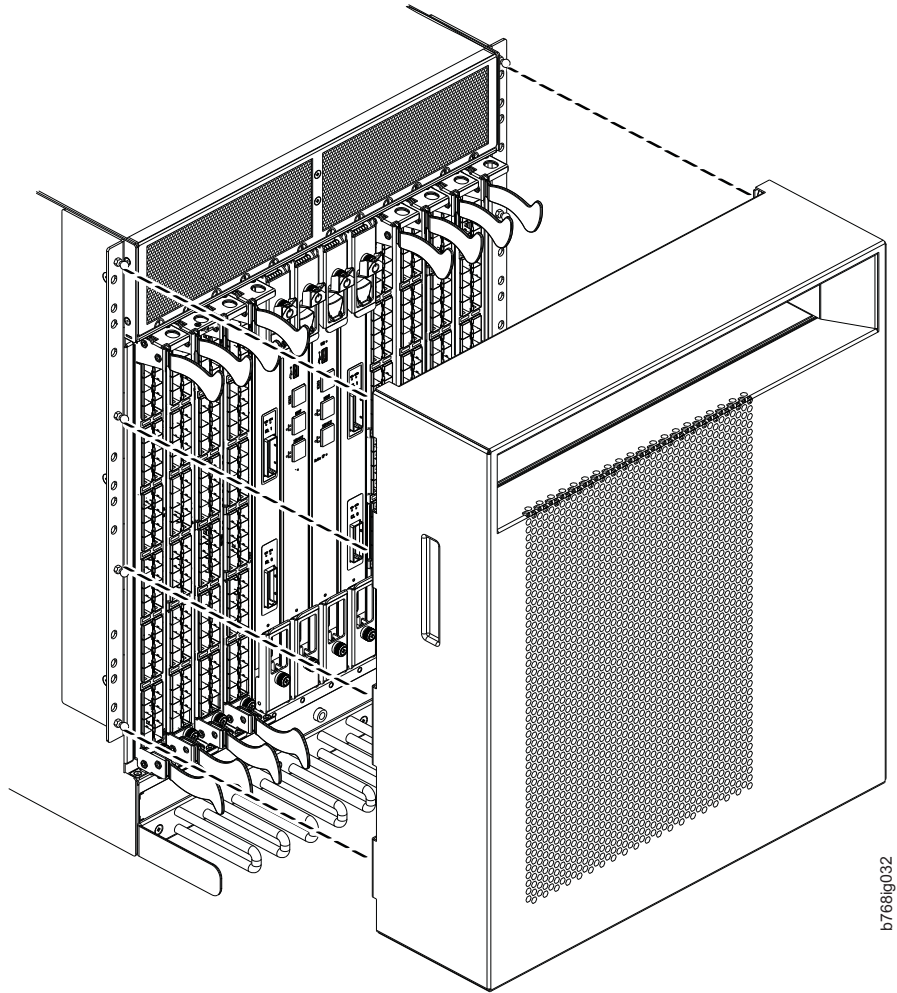
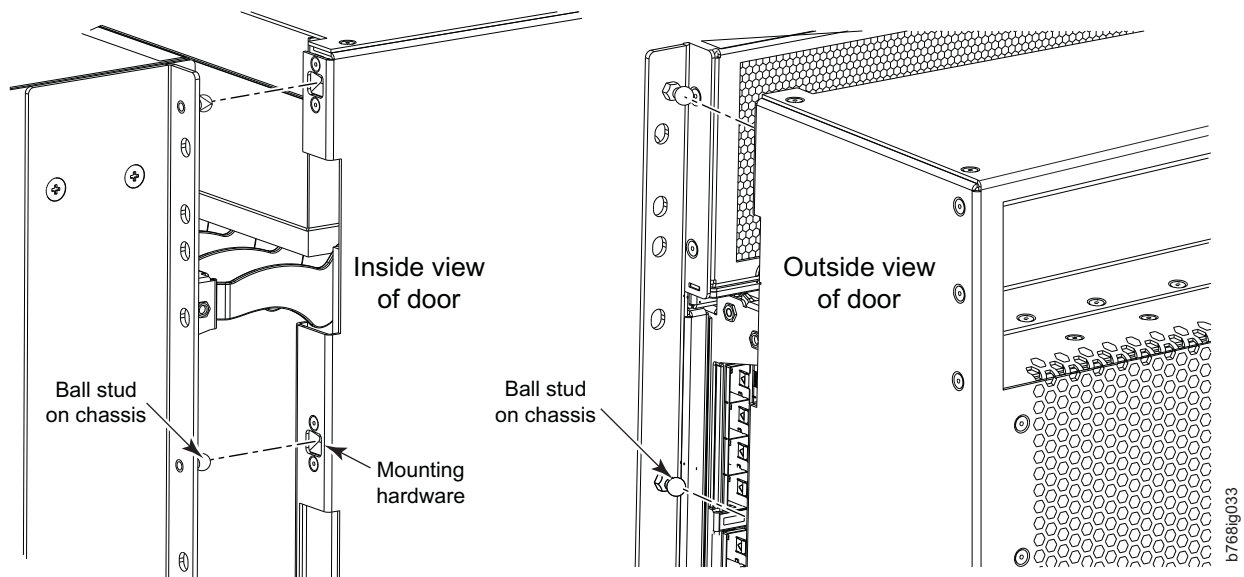

Figure 10. Aligning the chassis door with the ball studs on the chassis
Figure 11. Details of the chassis and door, showing the ball studs on the chassis and the mounting hardware on the door
23. Reinstall the chassis door. Align the door with the chassis and push it into place, as shown in Figure 10 on page 24 and Figure 11 on page 25.